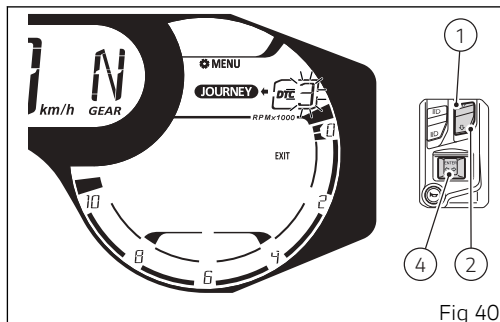

Fig 40
When entering the function, the currently set DTC intervention level starts flashing (Fig 40). Use buttons (1) and (2) to cyclically select the values "-", "1", "2", "3", "4" and "EXIT" with flashing frame.